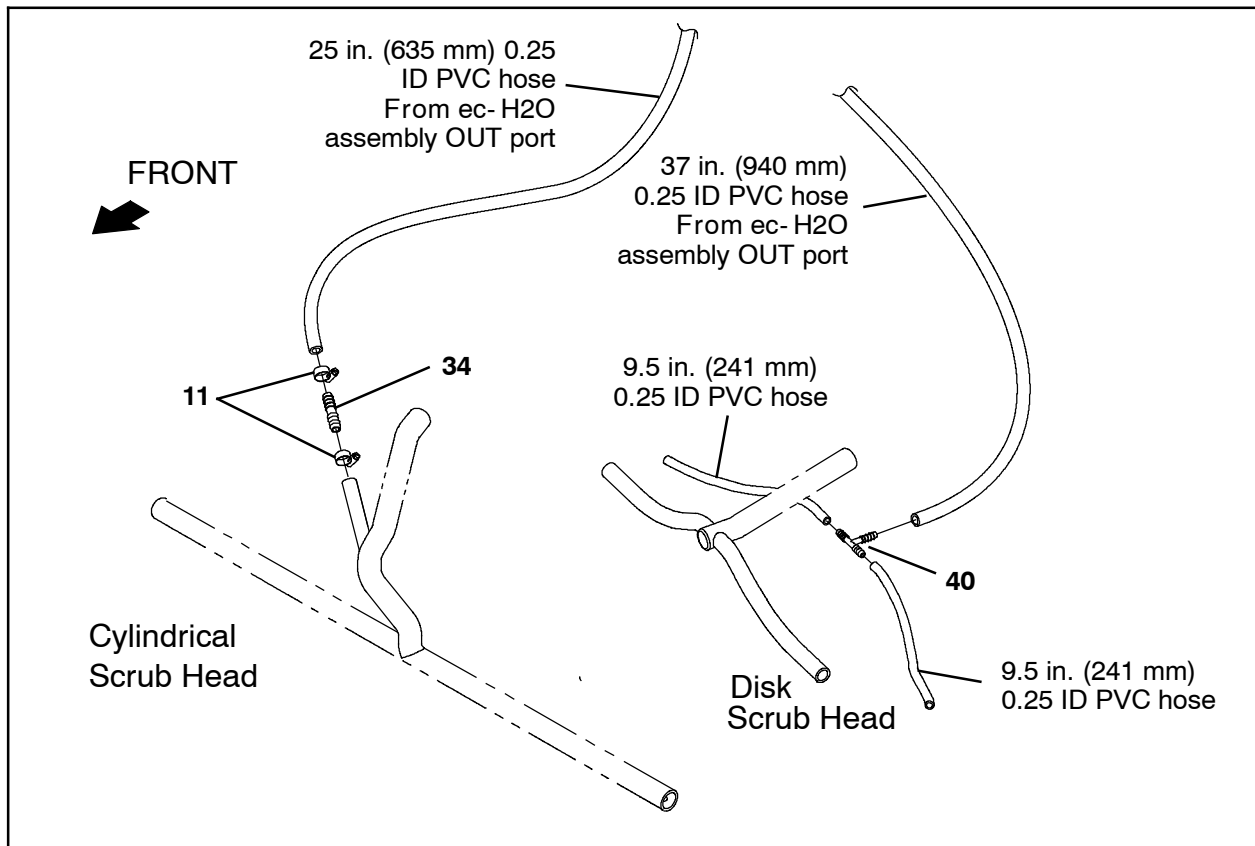

FIG. 18
30. **Machines with disk scrub heads:** Connect two 9.5 in. (241 mm) 0.25 ID PVC hoses to the t-fitting (40). (Fig. 18)
33. **Machines with disk scrub heads:** Connect the 37 in. (940 mm) 0.25 ID PVC hose from ec- H2O OUT to the spray manifold. (Fig. 18)
35. **Machines with cylindrical scrub heads:** Use a hose clamp (11) to connect a straight fitting (34) to the spray manifold. (Fig. 18)
36. **Machines with cylindrical scrub heads:** Use a hose clamp (11) to connect the 25 in. (635 mm) PVC hose from ec- H2O OUT to the spray manifold. (Fig. 18)